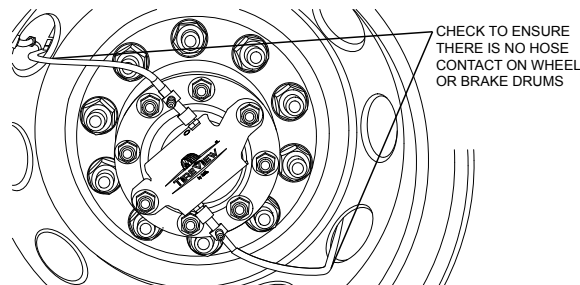

Figure 29: Hose Contact with Wheel
- Check the wheel-ends to confirm that the system hoses do not contact the wheels. See Figure 29.